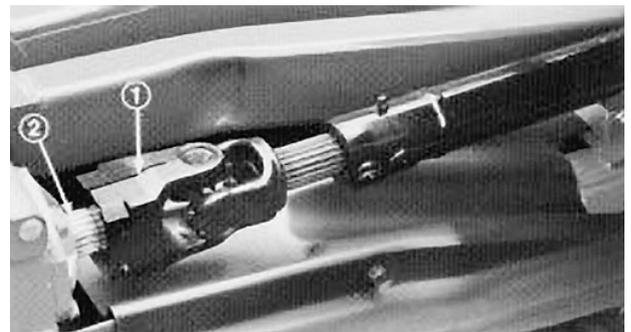

Figure 66
4. Remove the hairpin cotters and height-of-cut pins securing the rear deck straps to the height-of-cut brackets on the deck (Fig. 66).
6. Remove the socket head screws securing the drive shaft yoke to the gear box input shaft. Slide the yoke off the shaft (Fig. 66).